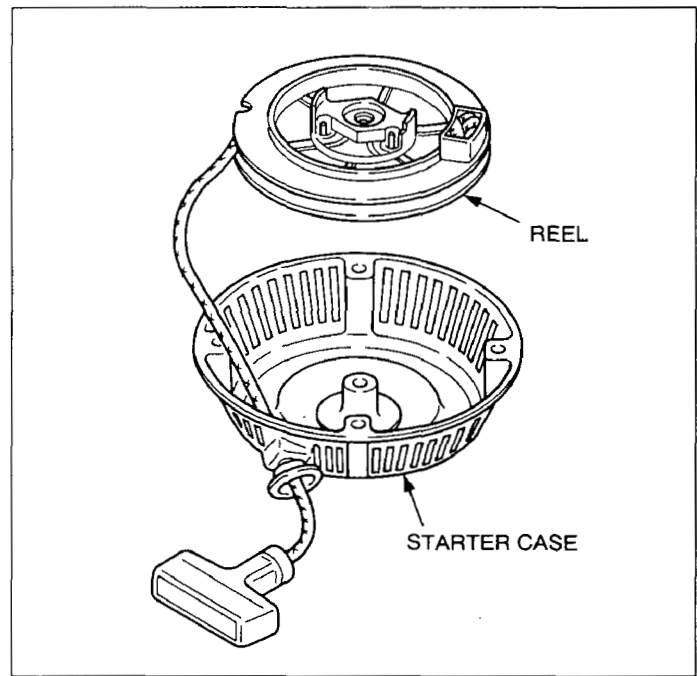

Fig. 9-3
- (4) Remove the reel from the starter case as shown in Fig. 9-3.